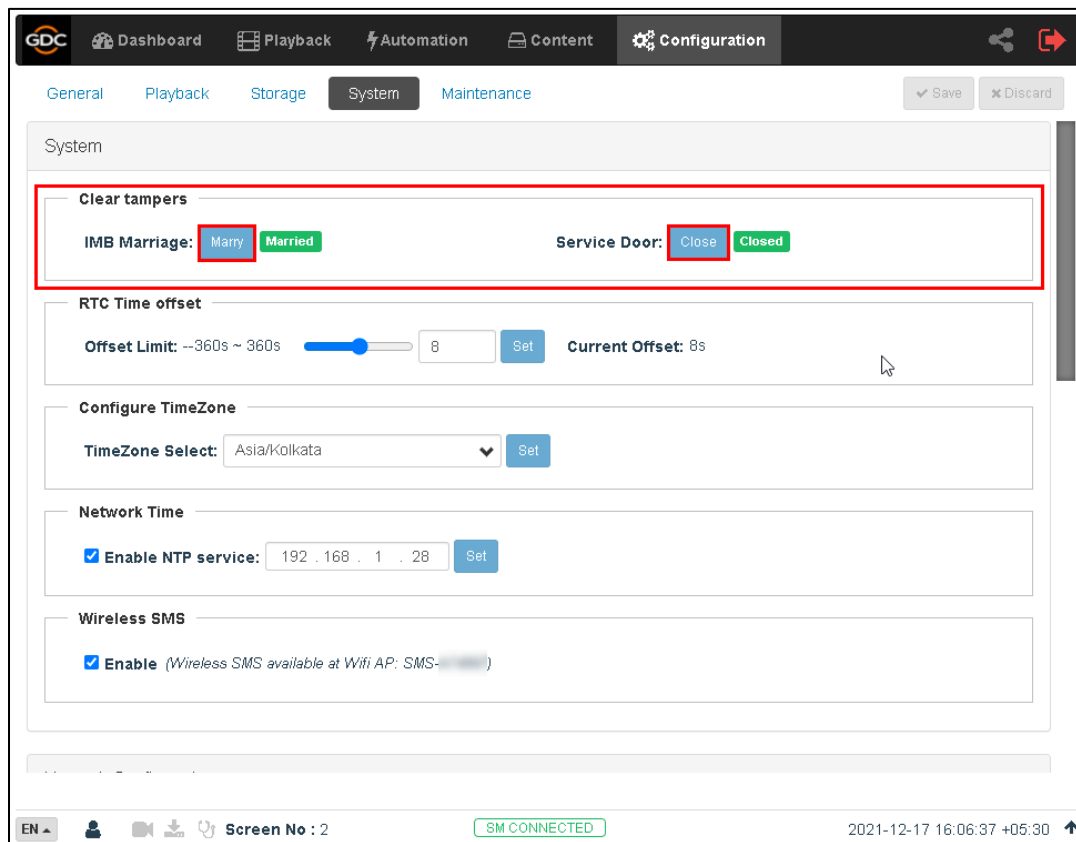

Figure 18: Clear IMB tampers
5. After the Marriage is performed and the tampers are cleared, green **Married** and **Closed** buttons will be shown respectively (as seen in **Figure 18**).